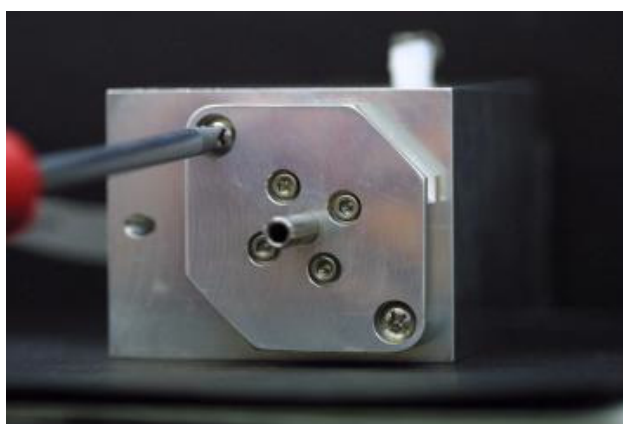

Figure 6-12
7. Open its front cover as shown in Figure 6-12.